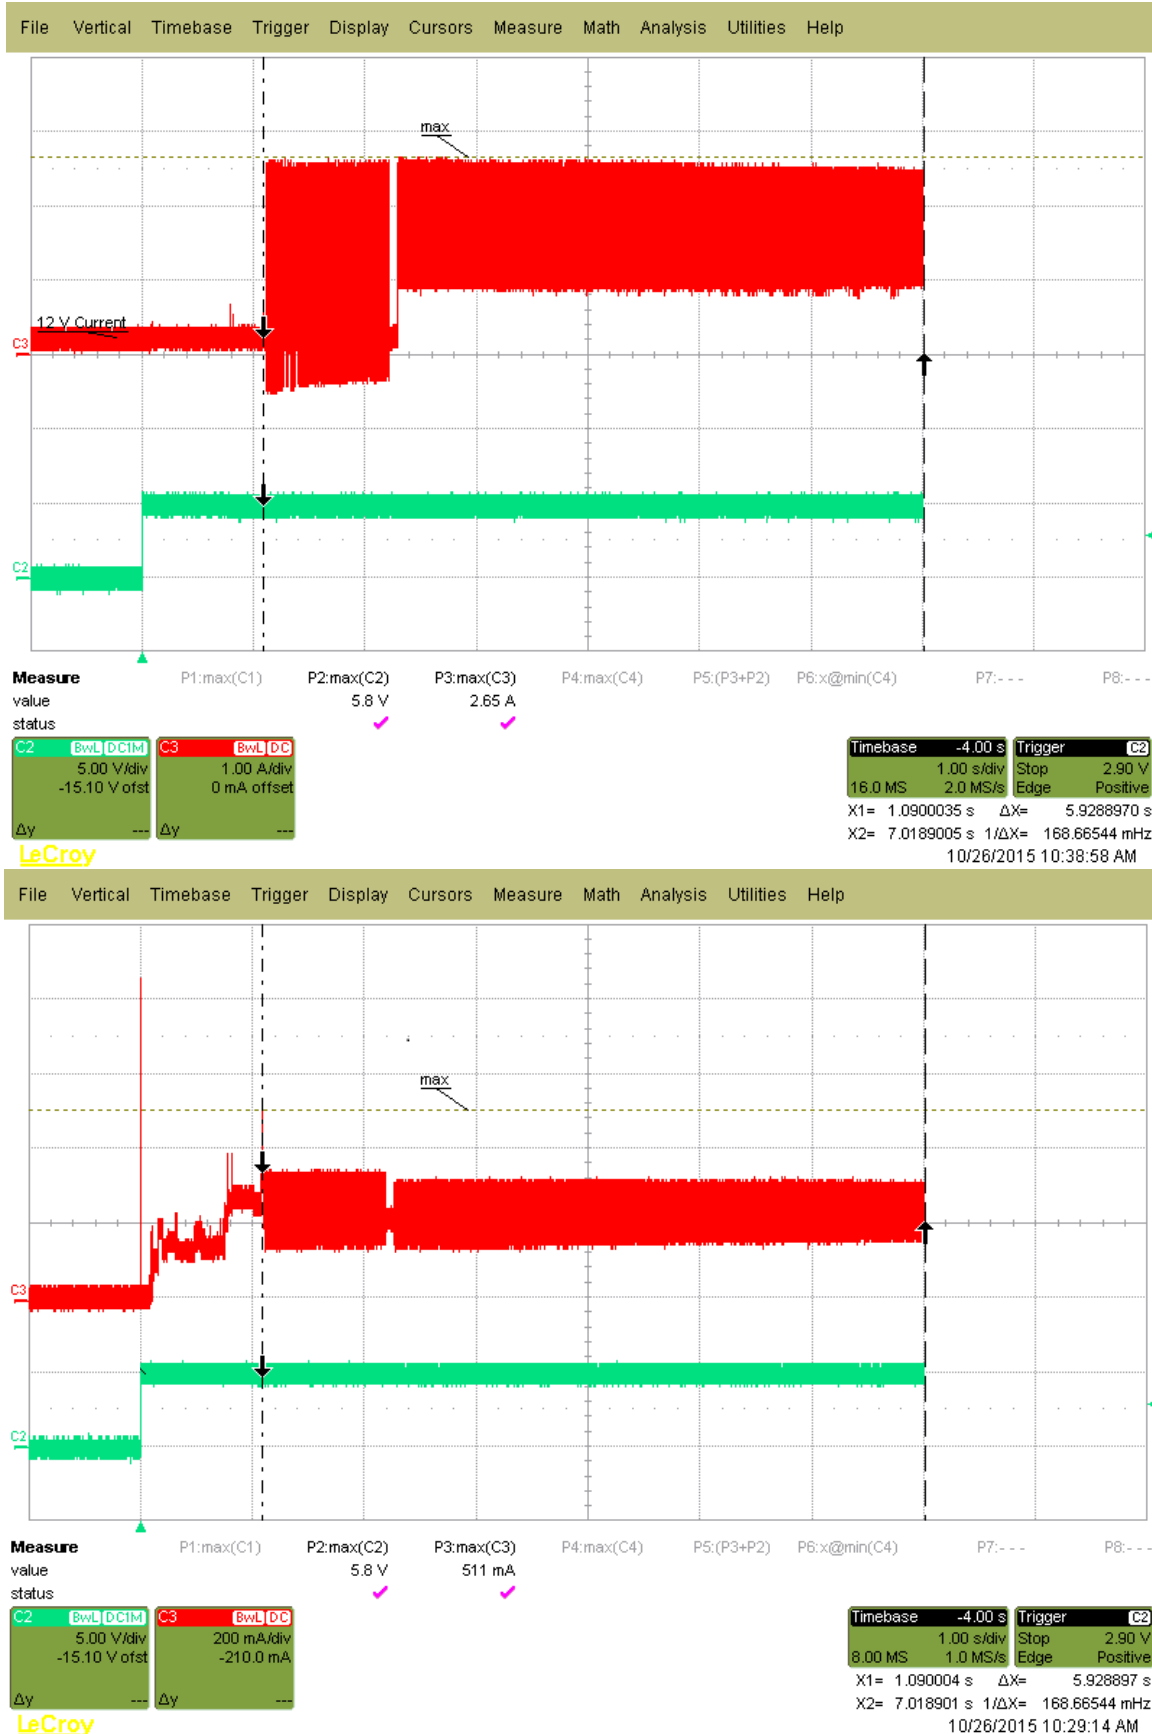

Figure 1. 8TB model current profiles.
- [3] See +12V current profile in Figure 1. (for 4TB models)